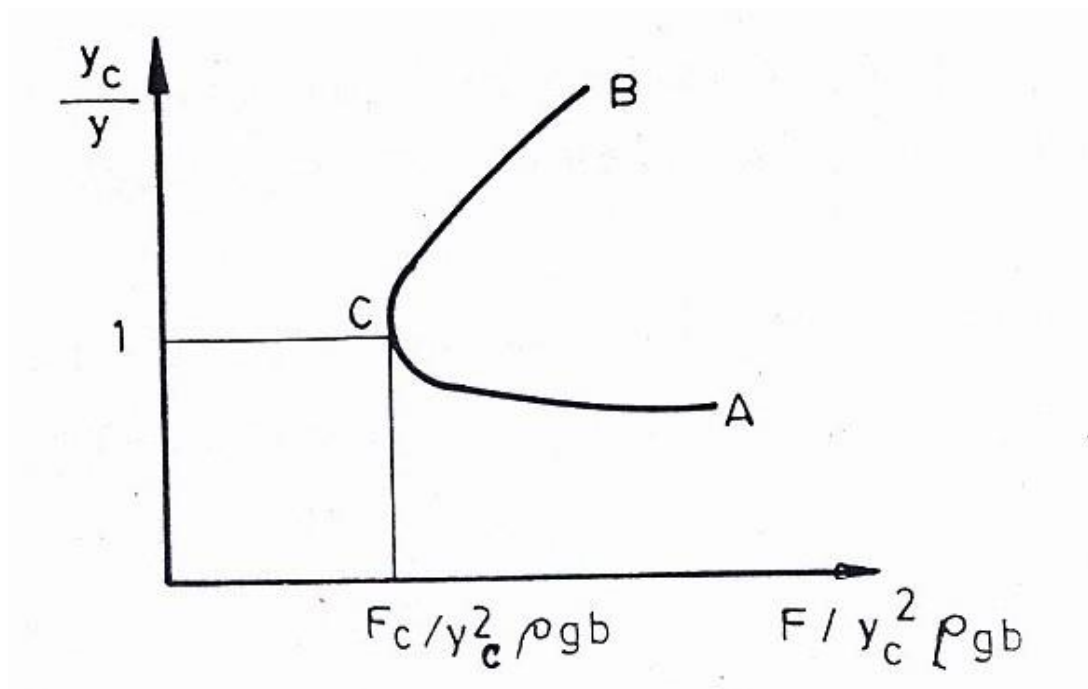

Fig. 4 Dimensionless specific force curve
Equation (7) is the generalized specific force equation and each term of this equation is dimensionless. The plot of this equation is shown in Fig. 4.